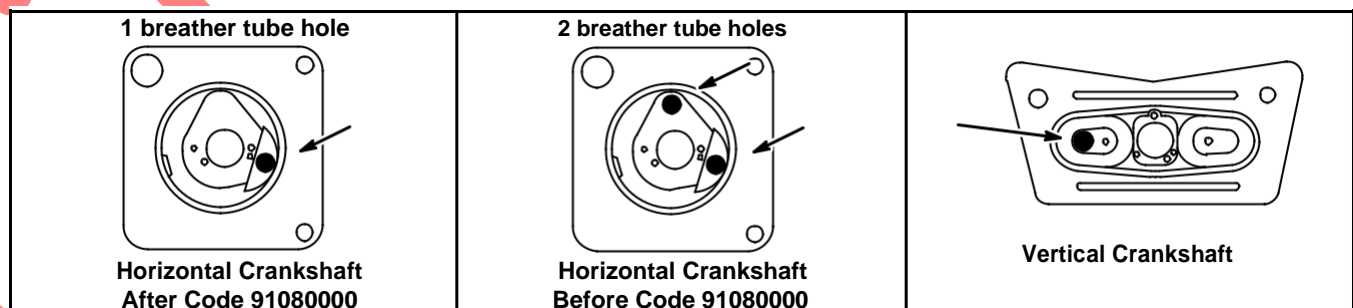

Fig. 26 – Breather Tube Installation
**IMPORTANT:** Install breather tubes on filtered side of air cleaner element, Fig. 26. If breather tubes are incorrectly installed, premature engine wear will result.